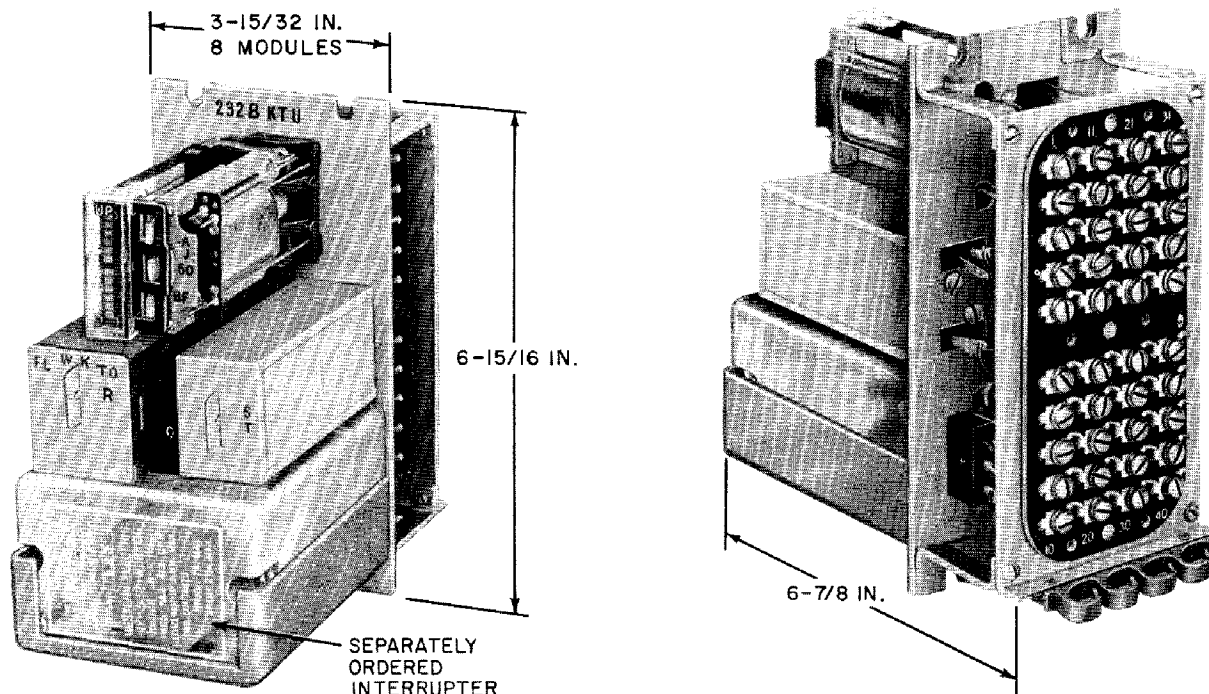

Fig. 1—232B Key Telephone Unit
2.01 The 232A (MD) or 232B KTU equipped with an optional 10-volt ac or 24-volt dc plug-in interrupter (Fig. 1) furnishes timing intervals and features for key telephone systems as follows:
2.10 The interrupter unit is installed as shown in Fig. 1. When installing, ensure that the unit is fully seated into the socket and held firmly in place by the adjustable bracket. The plug-in arrangement simplifies unit replacement. The bracket must be removed to install or remove the interrupter unit.